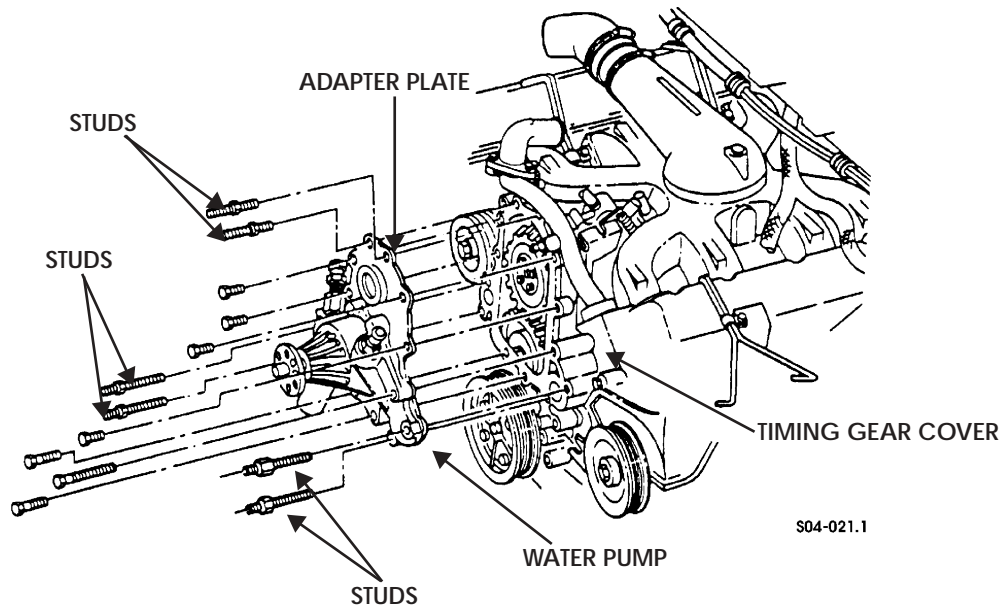
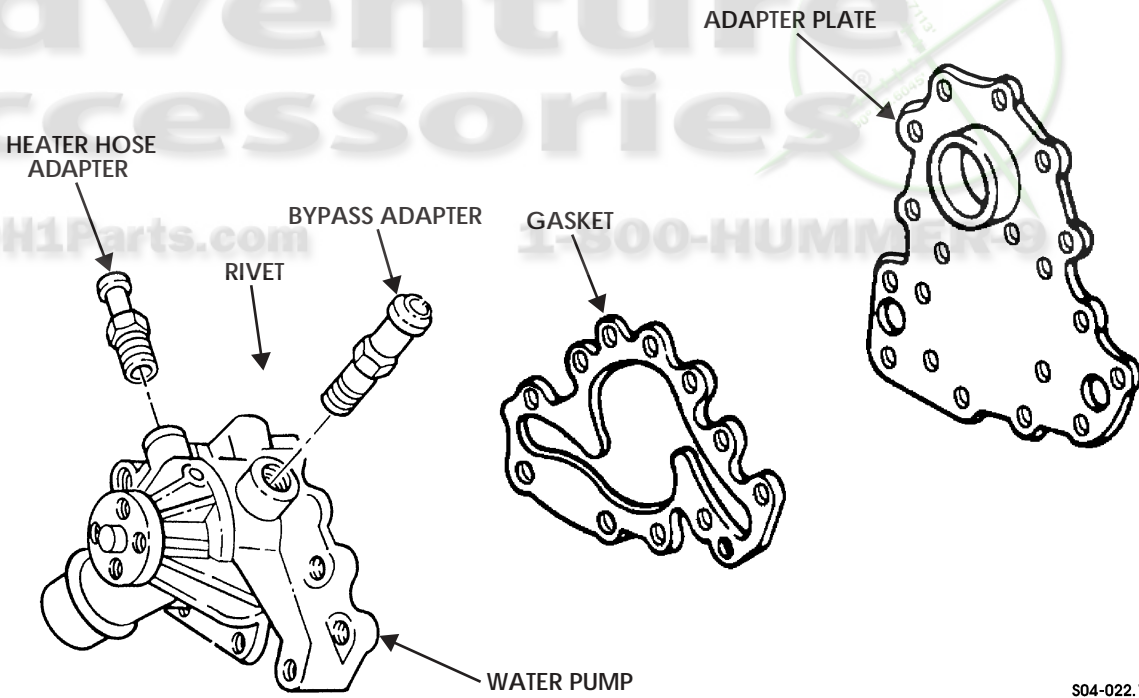

Figure 4-23: Water Pump and Adapter Plate
Figure 4-24: Water Pump
6. Remove six studs, seven capscrews, water pump and adapter plate from timing gear cover (Figure 4-23).
8. If water pump is being replaced, remove heater and bypass hose adapters from water pump (Figure 4-24).
1. Clean remaining gasket material and sealing compound from adapter plate, water pump, and timing gear cover (Figure 4-23) and (Figure 4-24).
2. Inspect water pump for cracks, breaks, or loose impeller (Figure 4-24).
3. Inspect adapter plate for excessive corrosion (Figure 4-24).
4. Inspect rivet (Figure 4-24).
1. Install gasket and water pump on adapter plate with seven capscrews. Tighten capscrews to 13-20 lb-ft (18-27 N•m) (Figure 4-24).
4. Install adapter plate and water pump on timing gear cover with six studs and seven capscrews (Figure 4-23).
5. If removed, apply pipe sealing compound to threads of bypass hose and heater hose adapters and install in water pump (Figure 4-24).